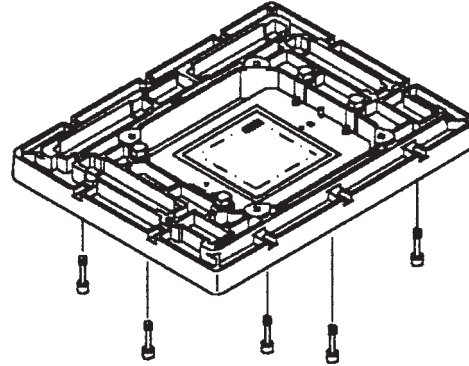

Figure 4-165. Board Screws
3. Referring to Figure 4-165 on page 4-177, use the torque tool and remove the 10 mounting screws.